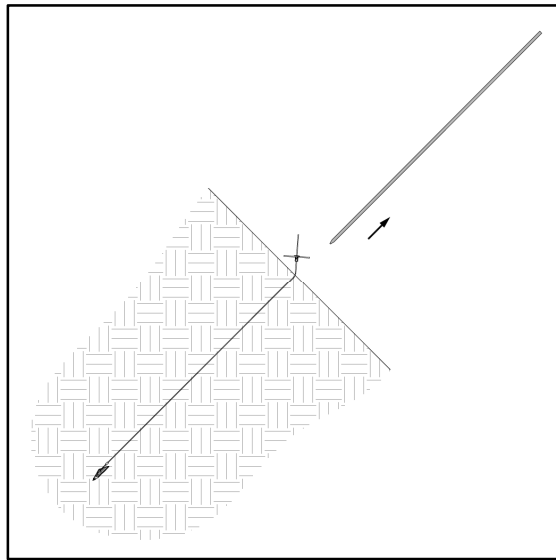

Figure 25: Remove Drive Steel from Ground
4. Remove the drive steel from the ground. (Figure 25) Depending on soil conditions, this may require the use of a setting tool or leverage device.